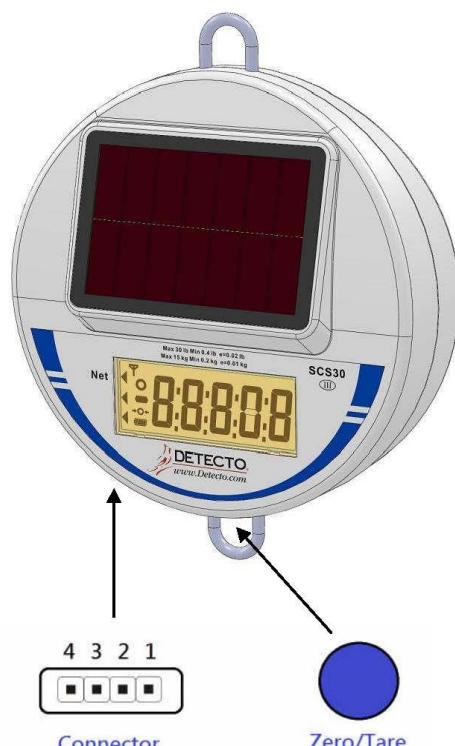

Figure No. 4
2. Referring to Figure No. 4, short Test Pins 3-4 to enter calibration mode. The display will show the internal count (zero count) when in the calibration mode.